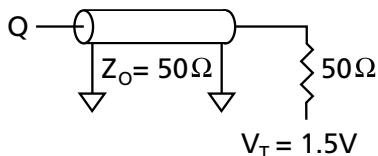
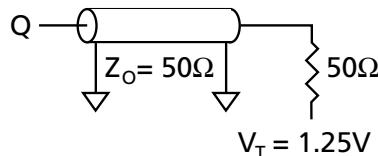

Figure 1
Figure 3
3. Test conditions as specified with output loading as shown in Figure 1 for 3.3V I/O ($V_{DDQ} = +3.3V \pm 0.165V$) and Figure 3 for 2.5V I/O ($V_{DDQ} = +2.5V \pm 0.4V/-0.125V$).
| Output load | See Figures 1 and 2 |
| Output load | See Figures 3 and 4 |